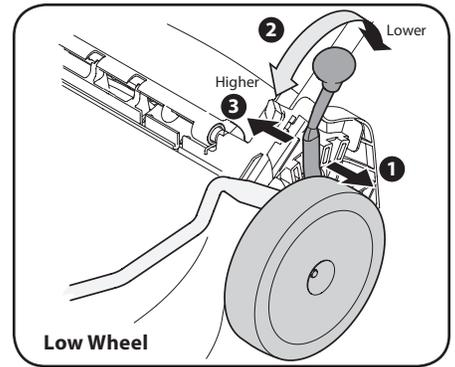
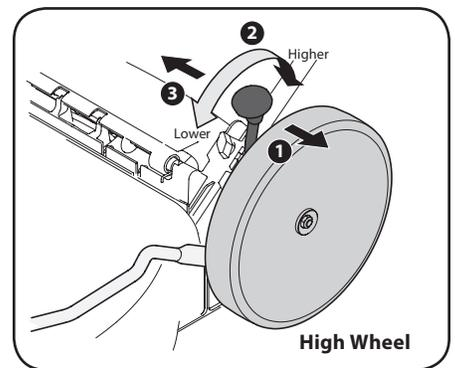

Figure 2-11
Figure 2-12
2. Slide lever to desired position for a change in cutting height. Refer to Figure 2-11 for low wheel and Figure 2-12 for high wheel.